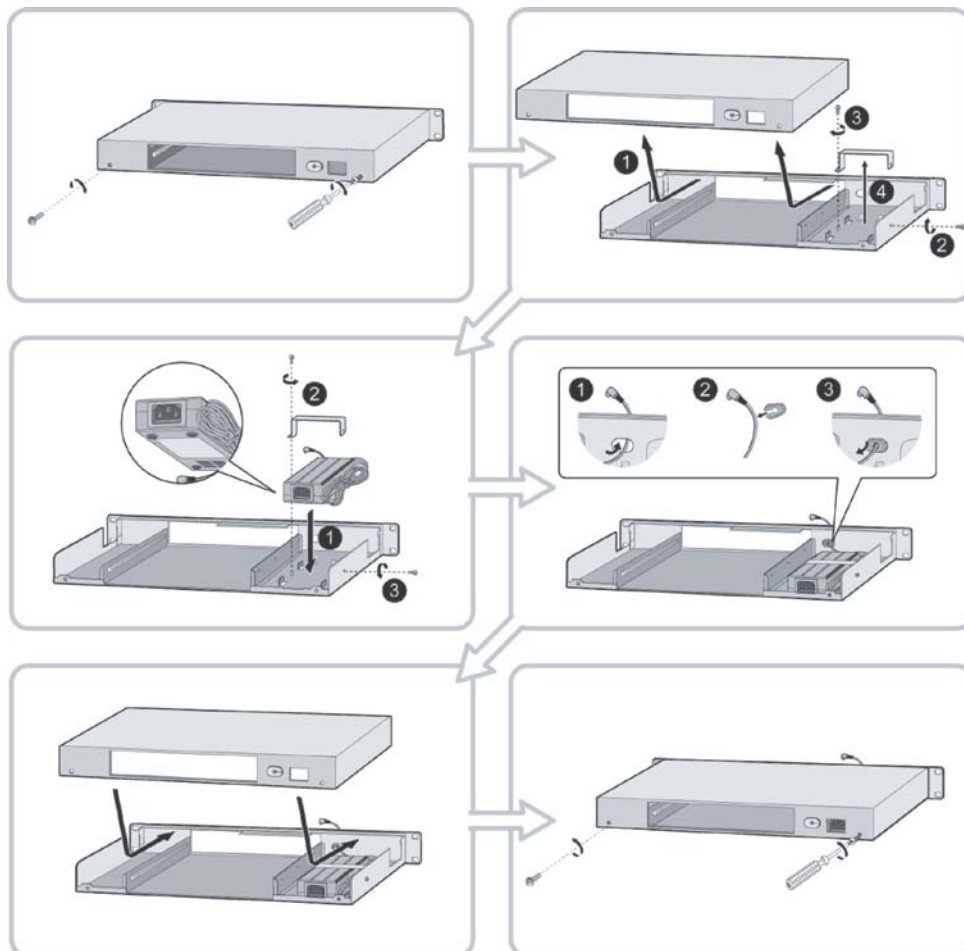

Figure 5.6-1 1U RMB Adapter Installation
1. Install the AC/DC adapter in the 1U-RMB. Refer to Figure 5.6-1.
- a) Remove the two (2) screws on the rear of 1U-RMB to release the upper housing.
- c) Remove the two (2) screws holding the adapter bracket.
- e) Install an adapter, the label side of the adapter should be placed on the inner surface of 1U-RMB), place the adapter bracket over the adapter and fasten the two (2) screws.
- h) Replace the upper housing and fasten the two (2) screws.